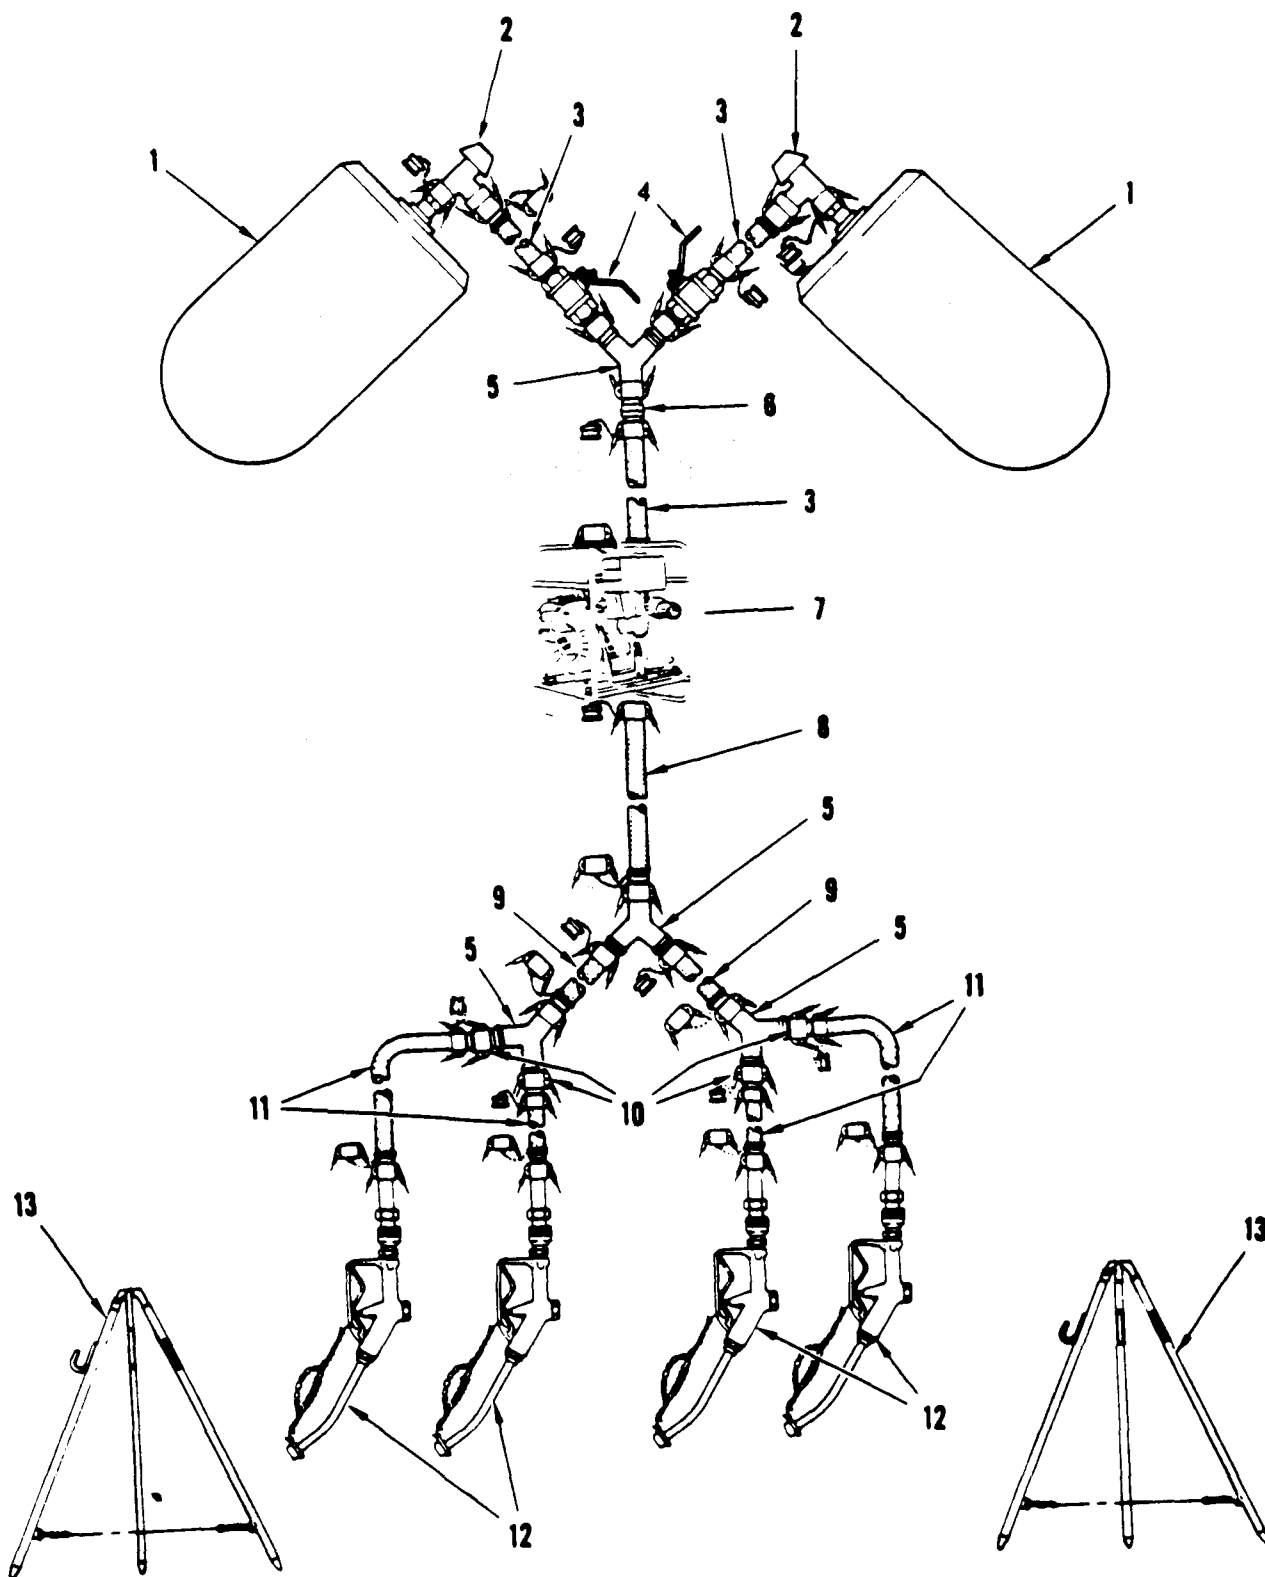

Figure 2-2. FAWPSS Set-up for Dispensing Water
- (1) Assure FAWPSS has been properly connected (figure 2-2). Refer to TM 10-8110-202-13&P for detailed water drum setup procedures.
- (2) Turn handwheel clockwise to open the elbow coupler valve assy (2) on each water drum (1).
- (3) Open two 2inch valve assy (4).